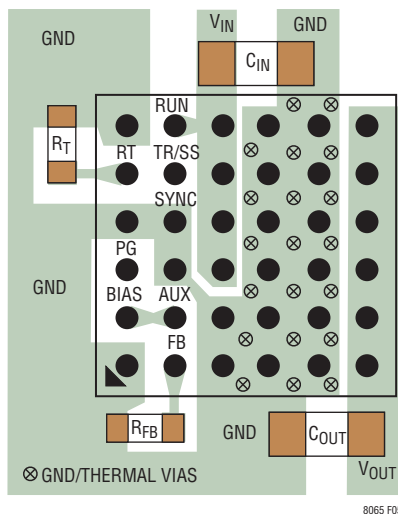

Figure 5. Layout Showing Suggested External Components, GND Plane and Thermal Vias
Most of the headaches associated with PCB layout have been alleviated or even eliminated by the high level of integration of the LTM8065. The LTM8065 is nevertheless a switching power supply, and care must be taken to minimize EMI and ensure proper operation. Even with the high level of integration, you may fail to achieve specified operation with a haphazard or poor layout. See Figure 5 for a suggested layout. Ensure that the grounding and heat sinking are acceptable.
- Use vias to connect the GND copper area to the board's internal ground planes. Liberally distribute these GND vias to provide both a good ground connection and thermal path to the internal planes of the printed circuit board. Pay attention to the location and density of the thermal vias in Figure 5. The LTM8065 can benefit from the heat-sinking afforded by vias that connect to internal GND planes at these locations, due to their proximity to internal power handling components. The optimum number of thermal vias depends upon the printed circuit board design. For example, a board might use very small via holes. It should employ more thermal vias than a board that uses larger holes.